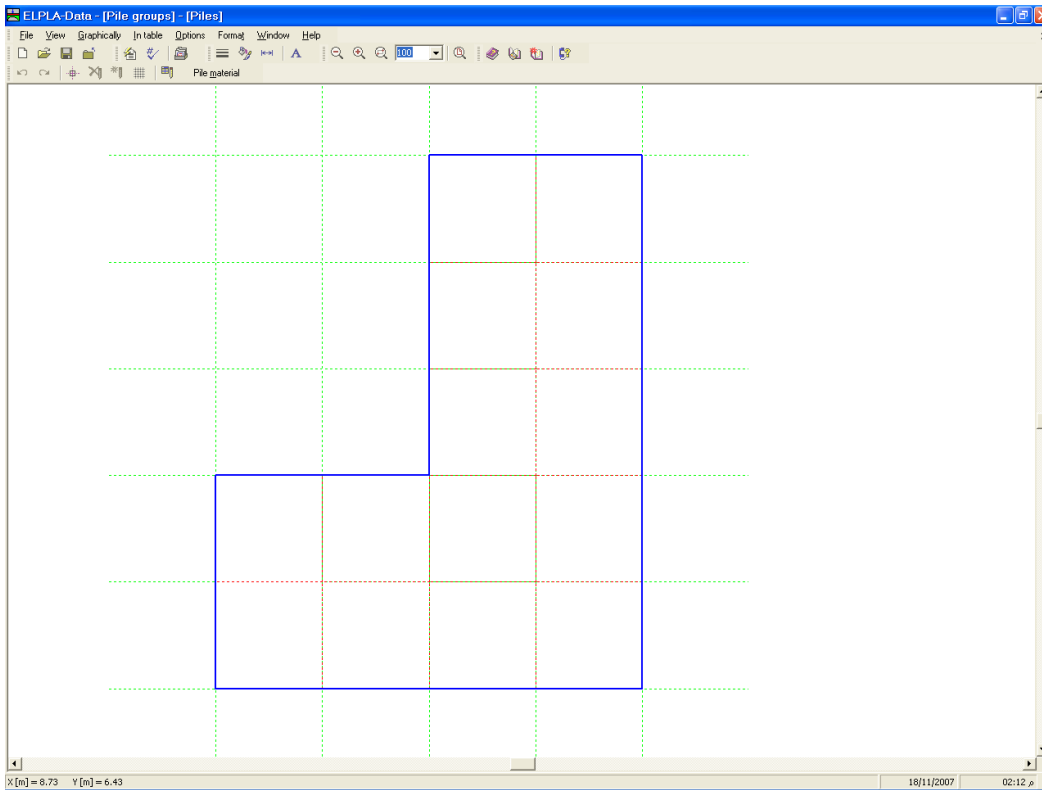
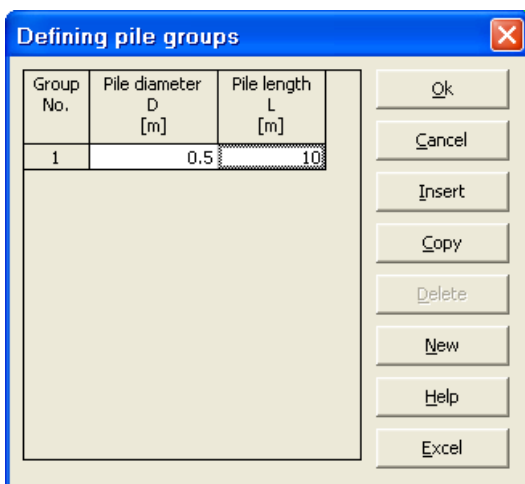
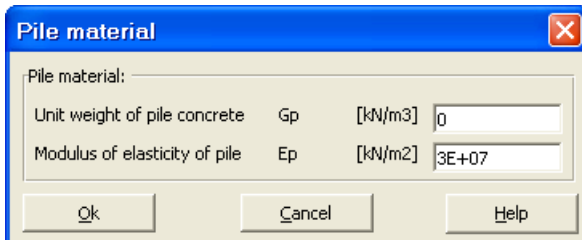

Figure 11-16 "Piles" embedded program
Figure 11-17 Defining pile groups
Figure 11-18 "Defining element groups" dialog box
To define piles, choose "Piles" command from "Data" menu of *ELPLA-Data*. The following embedded program in Figure 11-16 appears.
To define pile groups those have the same diameter and length, choose "Pile groups" command from "In Table" menu in Figure 11-16. When the "Pile groups" command is chosen, the following table in Figure 11-17 appears allowing you to define the pile diameter and length.
To define pile material, choose "Pile material" command from "In Table" menu in Figure 11-16. When the "Pile material" command is chosen, the following dialog box in Figure 11-18 appears allowing you to define the pile material. Type 0 in the "Unit weight of the pile concrete" edit box to neglect the pile weight.
- Choose "Select nodes" command from "Graphically" menu in Figure 11-16